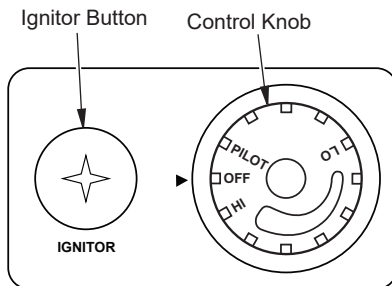

Figure 16 - Control Knob in the OFF Position
4. Wait five (5) minutes to clear out any air. Then smell for gas, including near the floor. If you smell gas, STOP! Follow "B" in the safety information, page 16. If you do not smell gas, go to the next step.
5. Turn control knob counterclockwise  to the PILOT position. Press in control knob for five (5) seconds (see Figure 16).